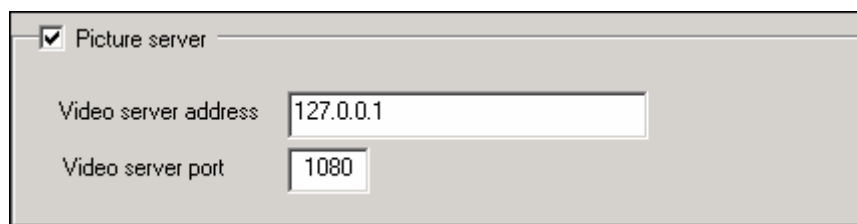

Fig. 36 "Picture server" checkbox on the "Network" tab
2. Mark the checkbox **Allow network access** (see Fig. 36).